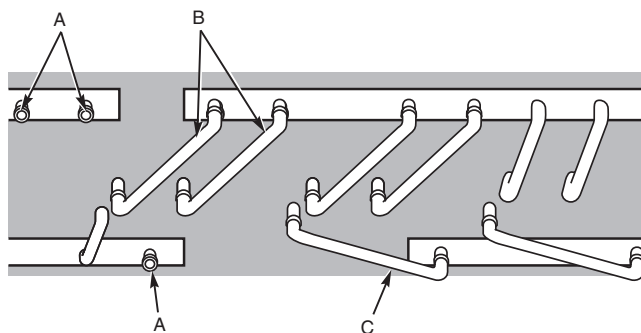

Fig. 9 — Parts Added to 09DK028,034 Unit (To Obtain 60/40% Circuiting)
- a. Cap the open stub tubes on the left headers, where two are located on the gas header, and one on the liquid header. See Fig. 9, Item A.
- b. Insert both $4\frac{1}{16}$ -in. length tube nipples into the open stub tubes on the right side of the coil, connecting the gas header to the top row. See Fig. 9, Item B.
- c. Insert the $4\frac{1}{16}$ -in. length tube nipple into the open stub tubes on the right side of the coil, connecting the liquid header to the bottom row. See Fig. 9, Item C.